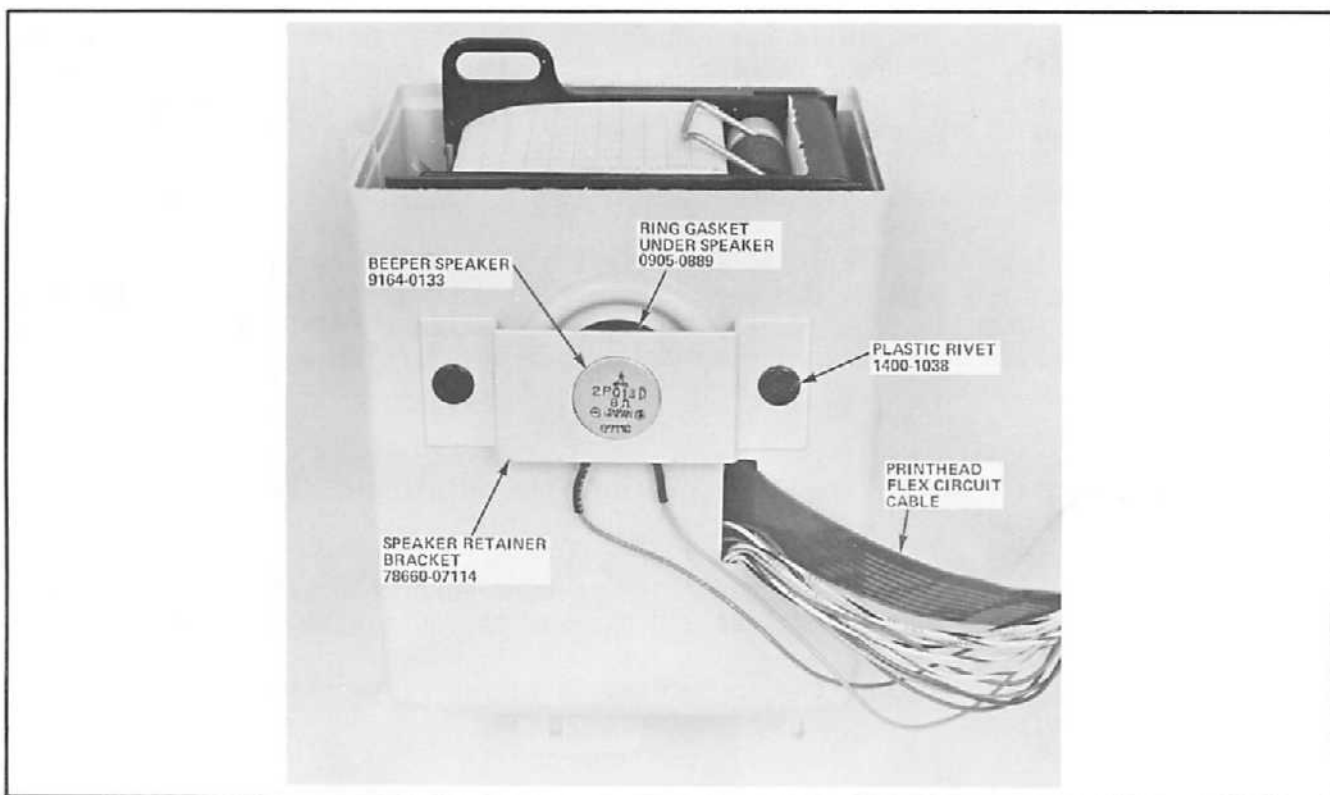

Figure 4-23. Top View of Recorder Housing.
6. Peel the protective backing from the other side of the ring and position the speaker. Apply pressure to the speaker magnet and hold for about one minute to set the adhesive. Not too much pressure or you may damage the speaker (see Figure 4-23).